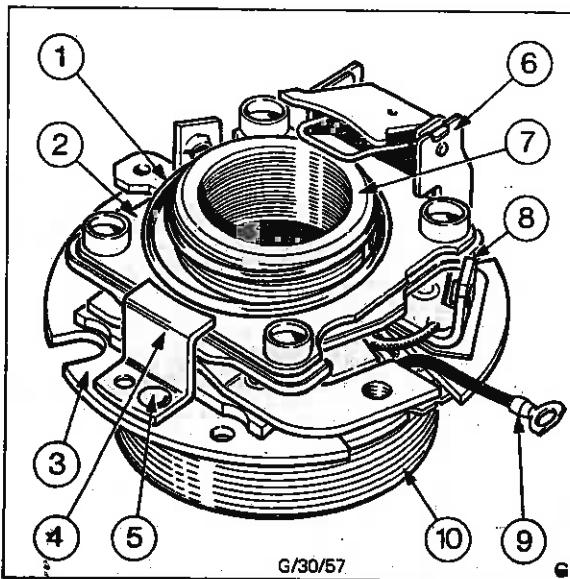

Fig. 16 - Solenoid Switch Assembly
The solenoid unit is fitted for solenoid open circuits. For measuring current consumption at nominal voltage, 12 VOLT STARTER SOLENOIDS ONLY are dual wound and consist of a pull-in and hold-on winding, therefore before testing these, a link should be made between the base of the contact assembly (3) Fig. 16, and the terminal lug (8) on earth return versions, or between the green lead and terminal lug (8) on insulated return versions.
Examine the contacts and, if necessary, clean them with white spirit or very fine carborundum paper. The first stage gap should be 2,1 mm (0,083 in) with a bottom limit of 1,93 mm (0,076 in) and a maximum of 2,5 mm (0,098 in). Press down the plunger and check that the second stage contacts make only after the trigger is tripped. Slight adjustments can be made by bending the brass contact stop (4), Fig. 16.
1. Remove the burred over ends of the rivet (5) Fig. 16, also the rivets securing the trigger assembly (6) using a 4,75 mm (0,187 in) diameter drill.
2. Carefully punch out the rivets and remove the contact stop (4) and trigger assembly. Examine the trigger assembly for wear on the pivot points, if excessive, fit a new trigger assembly.
3. Withdraw plunger (7) and plunger spring (1) moving contact assembly (2) and inner spring as one assembly.
4. Unsolder the red solenoid lead connected to the fixed contact lug (8) on 12 volt machines, also the bare solenoid lead connected to the fixed contact baseplate on all earth return machines.
5. Remove the fixed contact assembly (3).
6. Locate the fixed contact assembly (3) on the solenoid coil (10). Ensure the contact plate rivet holes line up with those in the solenoid coil plate.
8. Push the solenoid plunger fully home. With the plunger held in this position, replace the contact stop (4) and trigger assembly (6) and rivet them in position.
9. Solder the red solenoid lead to the fixed contact lug (8) on all 12 volt machines. On all earth return machines, solder the other bare solenoid lead to the fixed contact baseplate, localising the area of solder. Test security of joint with a sharp tug on the lead.